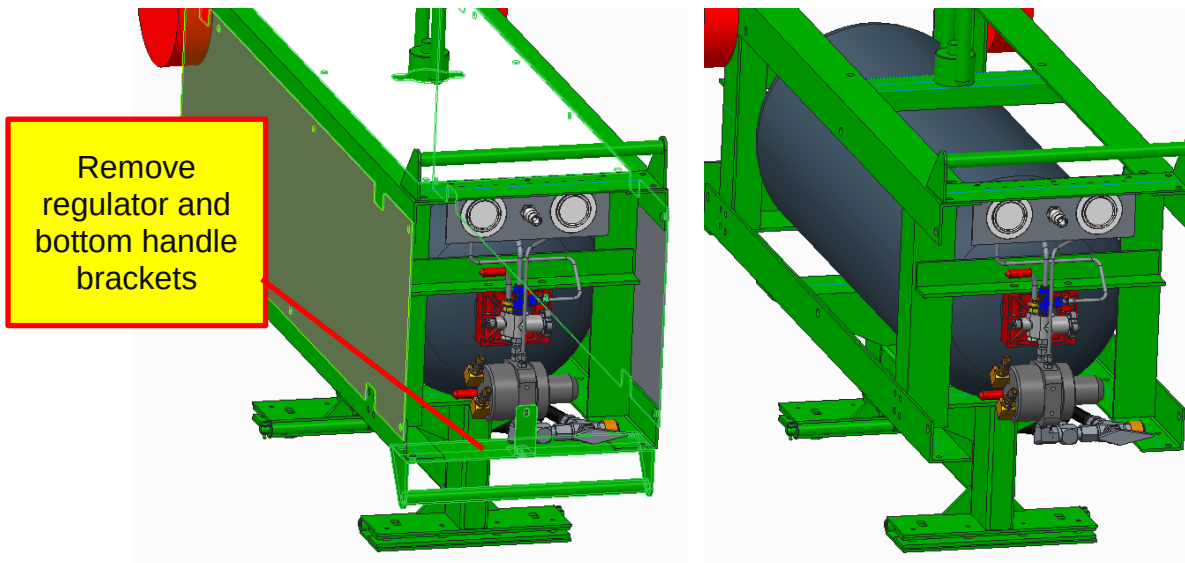

Figure 2. Remove covers and regulator bracket.
2. Remove covers, bottom handle bracket and regulator bracket. See Figure 2.